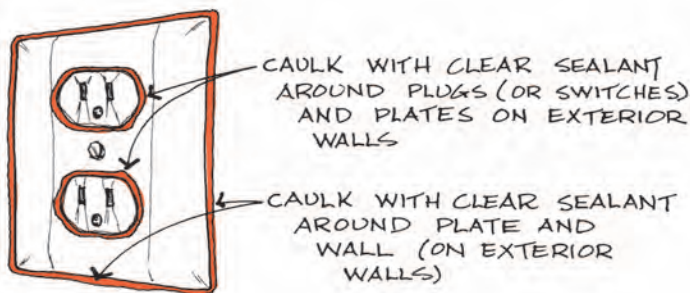

Figure 18
- Use clear silicone sealant and draw a bead around the plate and wall and around the switch or outlets and the plates (Figure 18).